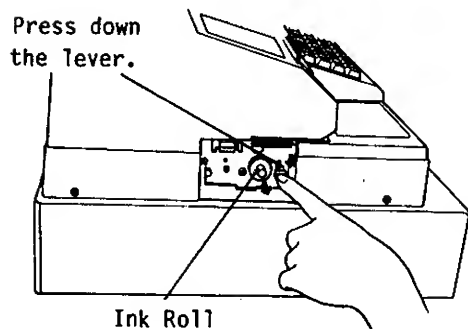

Fig. 2
3. Press down the lever, and withdraw the Ink Roll. (Fig. 2)